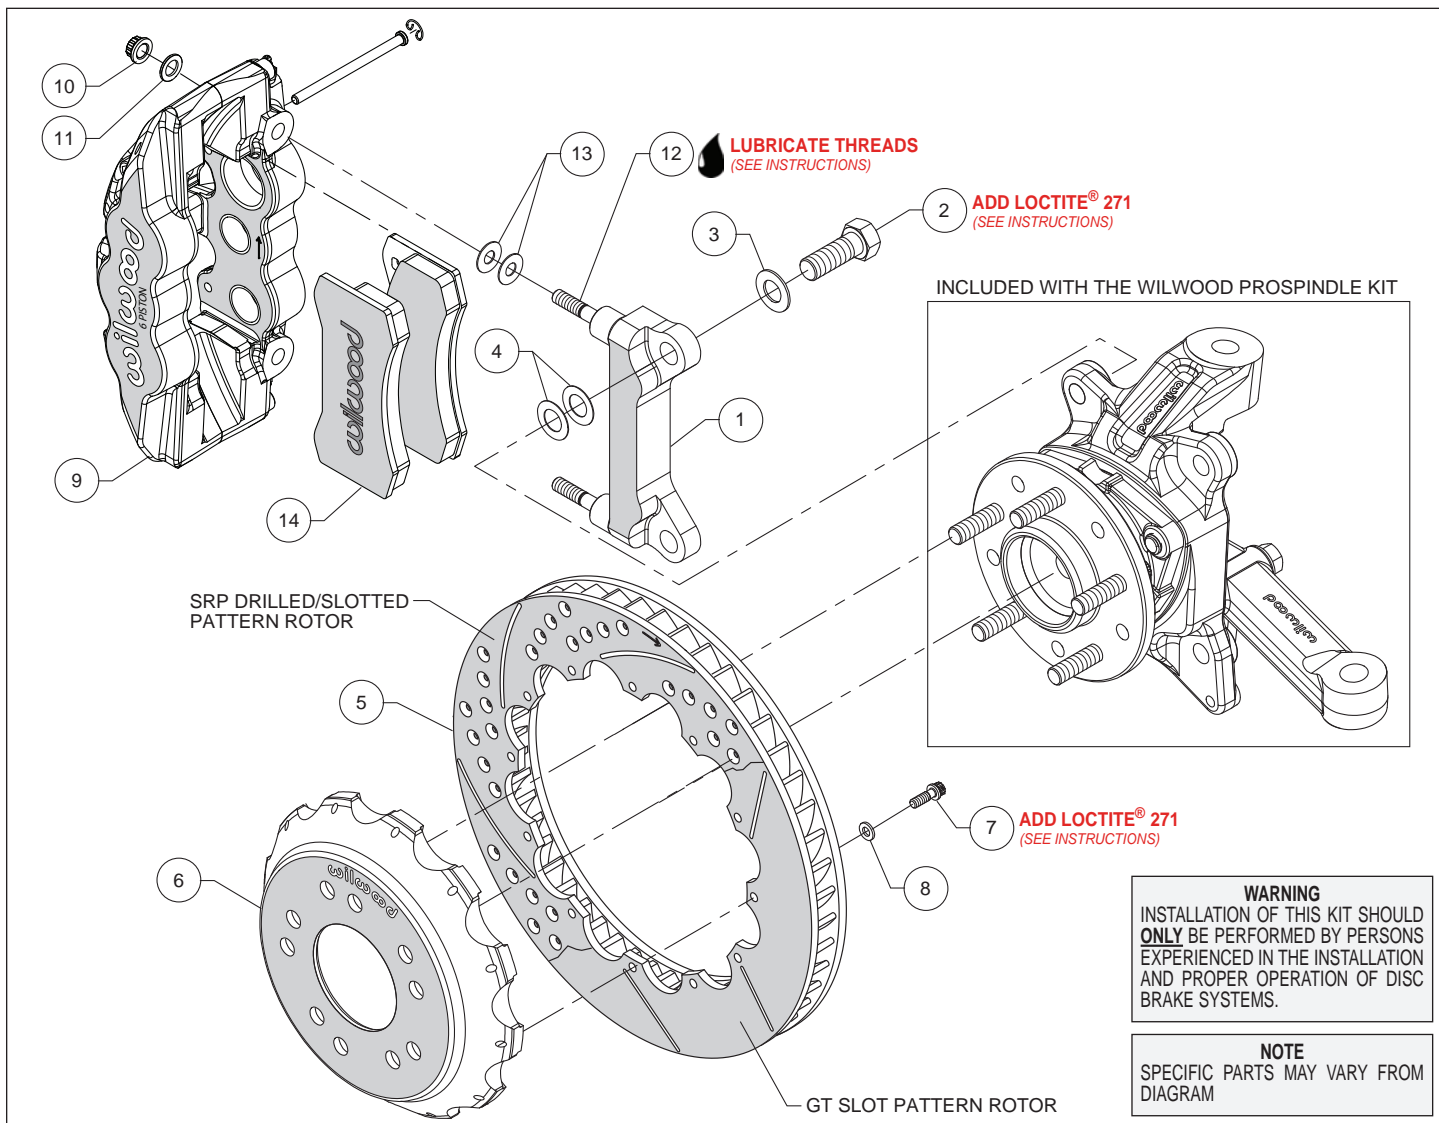
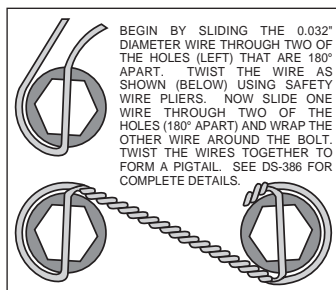

Figure 1. Typical Installation Configuration
Figure 3. Safety Wire Diagram
Assembly Instructions (numbers in parenthesis refer to the parts list and Figure 1 on the preceding pages):
- The caliper mount bracket (1) should initially be installed with clean, dry threads on the mounting bolts. Orient the bracket as shown in Figure 1 and Photo 1 and install using mount bolts (2) and washers (3). Initially place two .024" thick shims (4) on each bolt between the bracket and spindle, Figure 1. Temporarily tighten the mounting bolts. **NOTE:** The bracket must fit squarely against the mounting points on the spindle. Inspect for interference from casting irregularities, machining ridges, burrs, etc. Later, after the caliper alignment has been checked, the mount bolts will be secured using red Loctite® 271.
- Orient the rotor (5) and the hat (6) as shown in Figure 1 and Photo 2. Attach rotor to hat using bolts (7) and washers (8). Using an alternating sequence, apply red *Loctite*[®] 271 to the threads, and torque to 155 **in-lbs**. For an added measure of security, the bolts may be safety wired using standard 0.032 inch diameter stainless steel safety wire as shown in Figure 3. Please refer to Wilwood's data sheet DS-386 (available at www.wilwood.com/Pdf/DataSheets/ds386.pdf) for complete safety wire installation instructions.
- **NOTE:** *This kit contains distinct right and left hand calipers that must be mounted in a specific direction, as described below.* Lubricate the caliper mounting studs (12) with lightweight oil. Initially place two .030" thick shims (13) on each stud between the caliper and the bracket, as shown in Figure 1 and Photo 5. Mount the caliper (9) onto the bracket (1) using lock nuts (10) and washers (11), Figure 1. Ensure that the caliper is mounted so the largest pistons are at the rotor exit end of the caliper, in relation to the direction of rotor rotation. Temporarily tighten the lock nuts and view the rotor through the top opening of the caliper. The rotor should be centered in the caliper, Photo 6. If not, adjust by adding or subtracting shims (4) between the bracket and the spindle. Always use the same amount of shims on each of the two mounting bolts. Once the caliper alignment is correct, remove the bracket mounting bolts one at a time, apply red *Loctite*[®] 271 to the threads, and torque to 140 ft-lb.
- Remove the two pad retaining pins from the caliper (9) by carefully popping out the pin retaining clips and sliding out the pins. Insert the brake pads (14) into the caliper from the bottom, Figure 1, Photo 7. With the friction material facing the rotor, secure the brake pads in place with the pad retaining pins and clips, Photo 8. Reinstall the caliper onto the caliper mounting bracket and temporarily tighten the lock nuts. Check that the top of the brake pad is flush with the outside diameter of the rotor, Photo 9. If not, adjust by adding or subtracting shims (13) between the caliper and the bracket. After the caliper pad height is set, torque the caliper lock nuts (10) to 47 ft-lb.